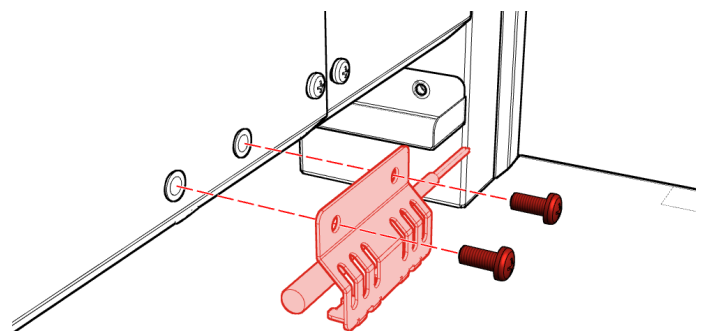

Fig. 24
4. Cut wire ties fastening air temperature sensor to evaporator module (Fig. 24). Pull sensor away from module to remove.